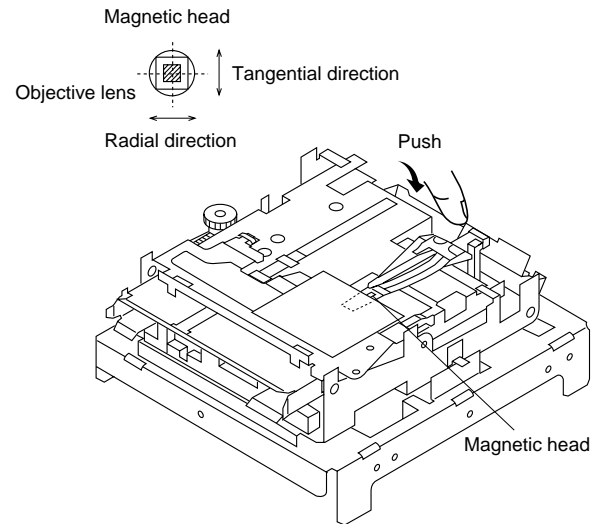

Figure 22-2
4. Make sure that there is a clearance as shown in Figure 22-2 and the magnetic head moves up and down smoothly.